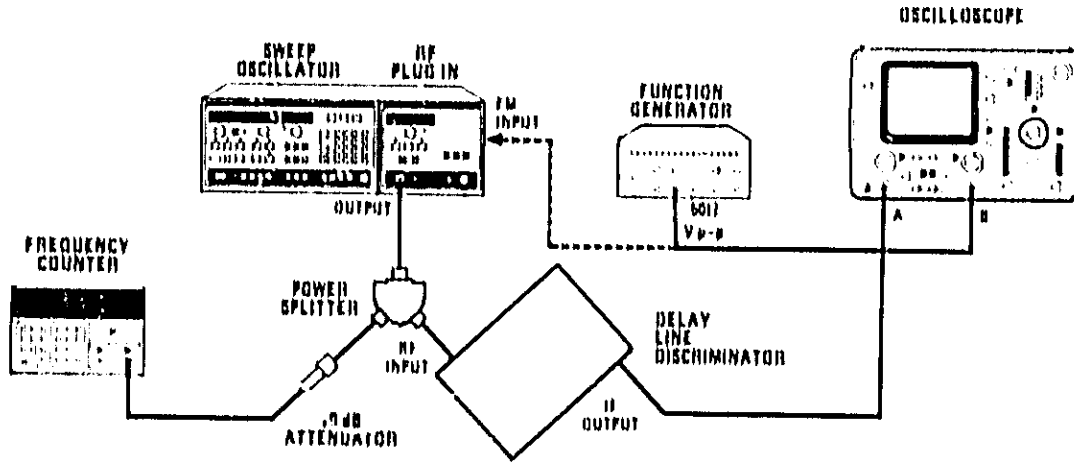

Figure 4-15. >100 Hz Frequency Modulation Test Setup
6. Set function generator output amplitude to 0.1 volt p-p output. Connect equipment as shown in Figure 4-15 with function generator output not connected. Adjust CW and CW VERNIER for a delay line discriminator output of 0 volts as observed on Channel A of the oscilloscope. Note frequency counter reading.